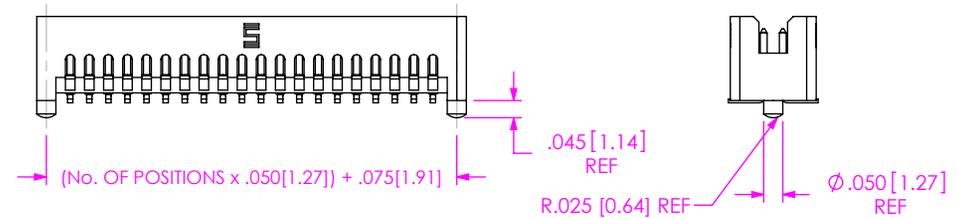

FIG 5
- A: ALIGNMENT PIN (USE TFM-XX-D-XX-A, SEE TABLE 1, SHT 3) (SEE FIG 5, SHT 3) (NOT AVAILABLE WITH -RA)